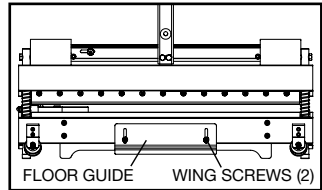
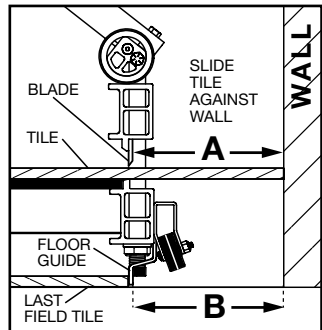

Figure 9
Figure 10
**FLOOR GUIDE:** The cutter includes a floor guide for quickly cutting fill tiles to fit straight walls (Figure 9). It positions the blade of the cutter in line with the outer edge of the last full field tile. As shown in Figure 10, the length of cut piece (dim. A) will equal the amount of fill remaining (dim. B).